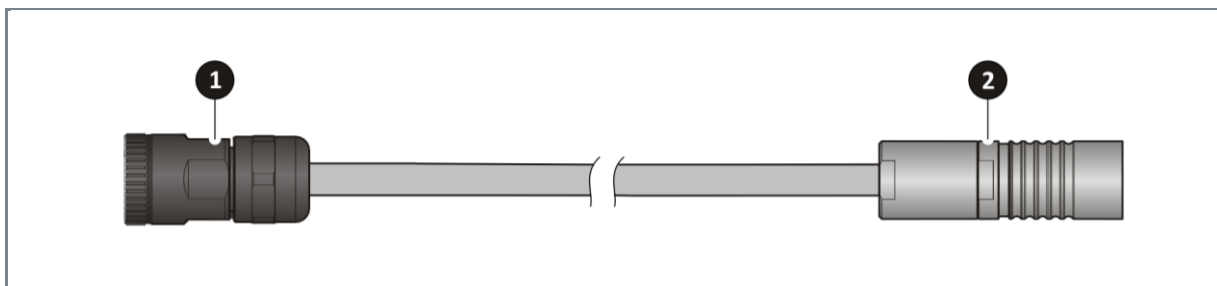

Fig. 7 Plugging in the controller cable
- ① Connector for the DynamicMold® LinQ
- ② Connector for the DynamicMold® Controller
2. Make sure the terminal sides for each connecting cable are correct. The black connector (Fig. 7, ①) is for the DynamicMold® LinQ, while the metal-colored connector (Fig. 7, ②) is for the DynamicMold® Controller.